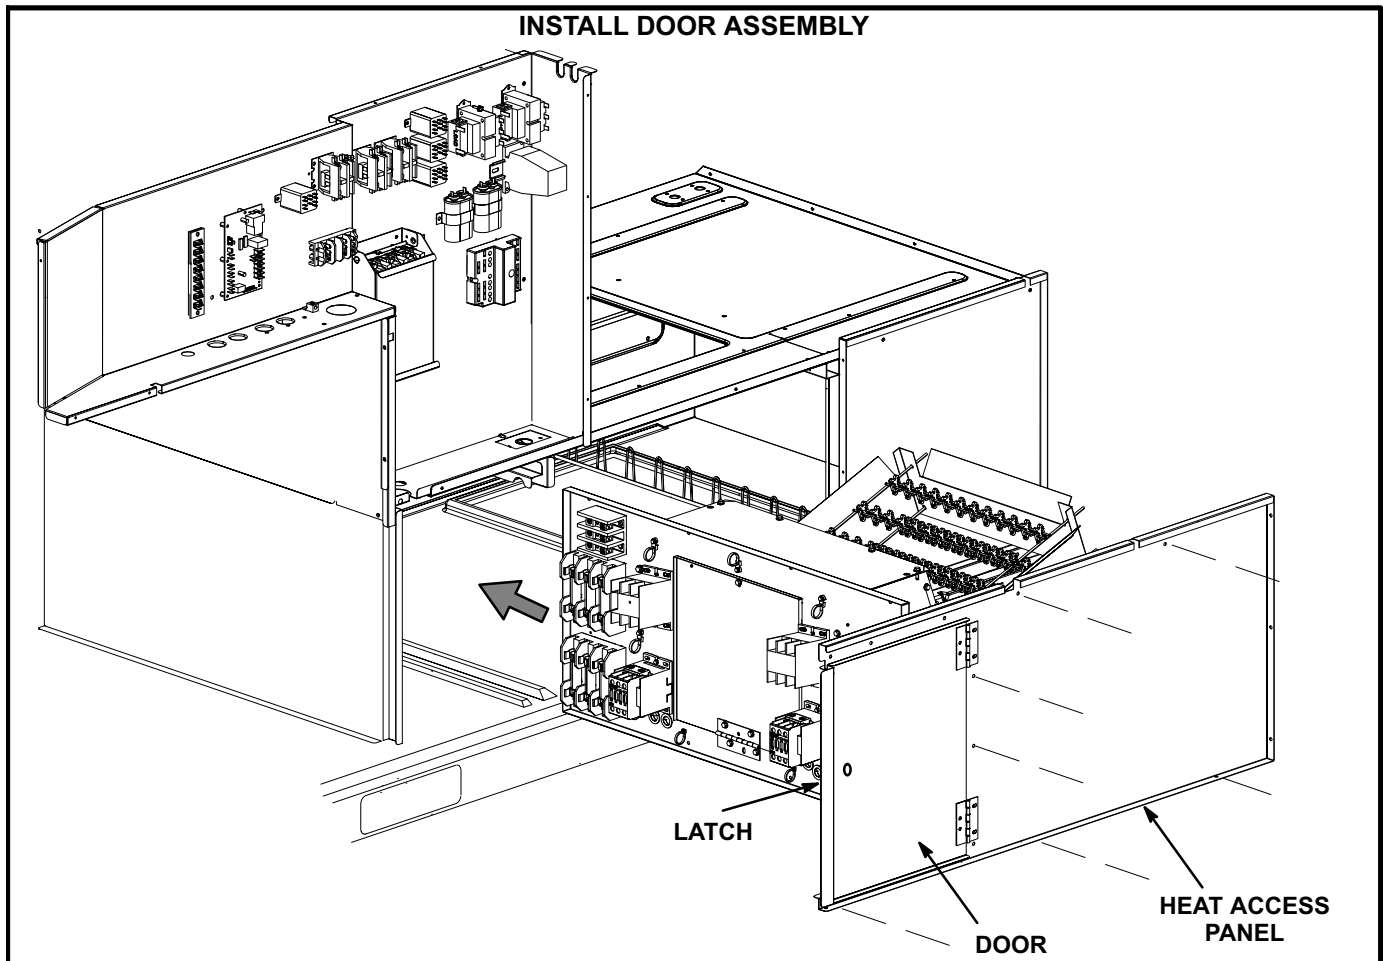

FIGURE 8
- 1- Secure heat access panel to electric heat vestibule, blower deck and base of unit. Use existing screws. See figure 8.